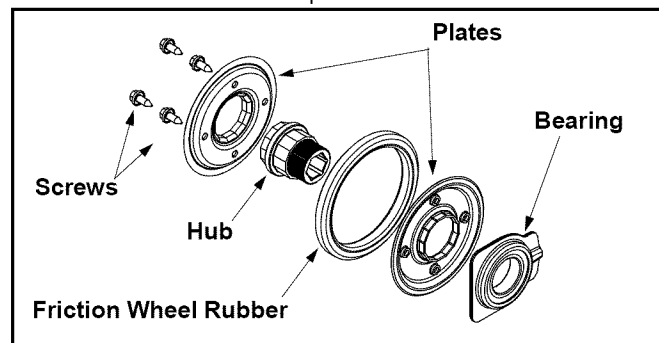

Figure 32
- Remove the four screws from the friction wheel assembly. Remove the friction wheel rubber from between the plates. See Figure 32.